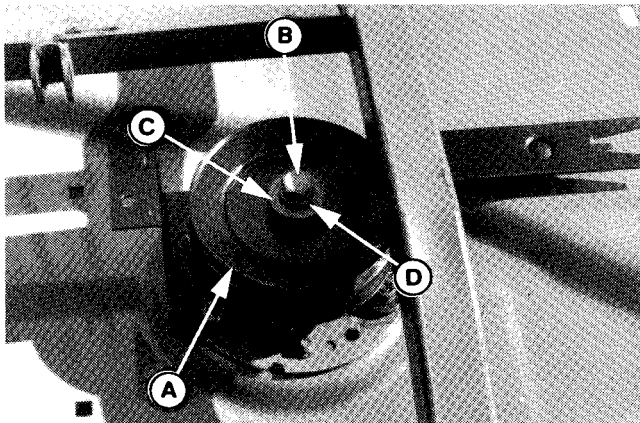

Figure 5.
The new 2" capscrew (B, figure 5) installed in step 12 is packaged with the collection system box and not with the turbo blower.
- Install the new double-groove pulley (A, figure 5) with 7/16-14 x 2.0 capscrew (B) and existing washer (C) and lockwasher (D). Torque to 55-70 ft. lbs. (74-95 Nm). Use a wood block to prevent blade from turning. Do not install belt at this time.